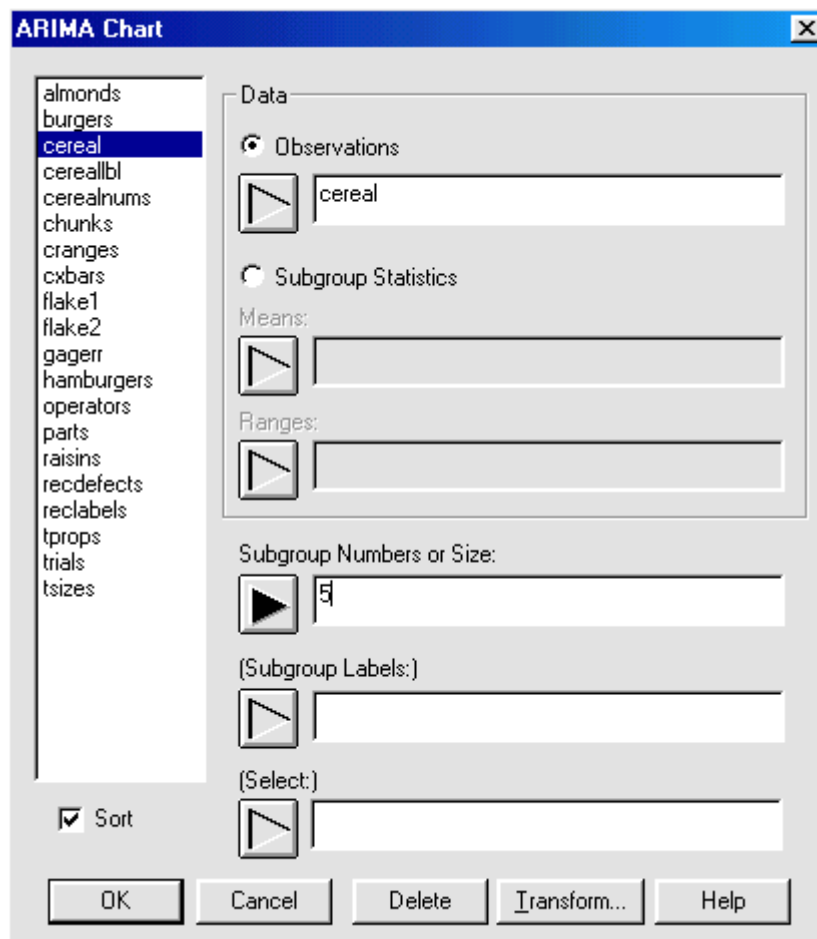

Figure 7-1. ARIMA Chart Analysis Dialog Box
1. Choose **SPECIAL... QUALITY CONTROL... SPECIAL PURPOSE CONTROL CHARTS... ARIMA CHART...** to display the Analysis dialog box (see Figure 7-1).